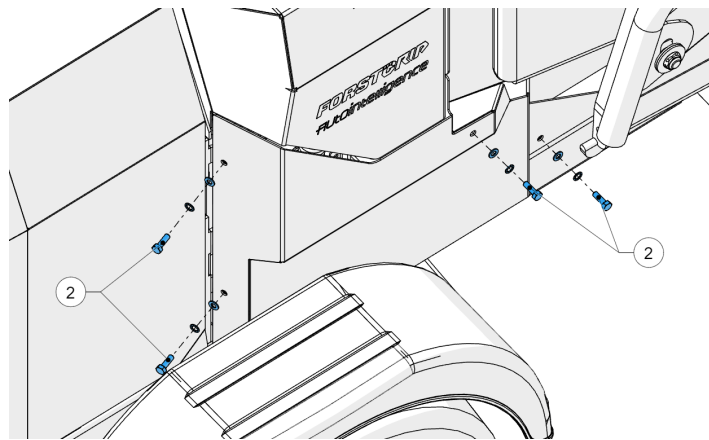

Figure 54 - Remove bolts
3. Remove the bolts securing the panel (2, Figure 54).